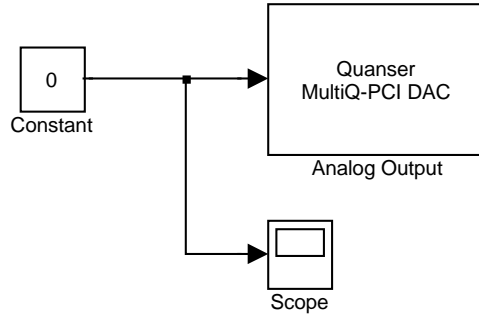

Figure 3: Model for measuring motor input voltage.
3. Create the Simulink model shown in Fig. 3.